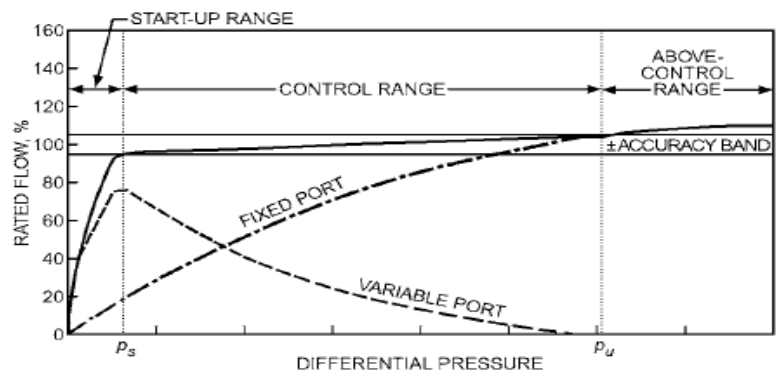

Fig. 22 Automatic Flow-Limiting Valve Curve
- A typical performance curve for the valve is shown in Figure 22.